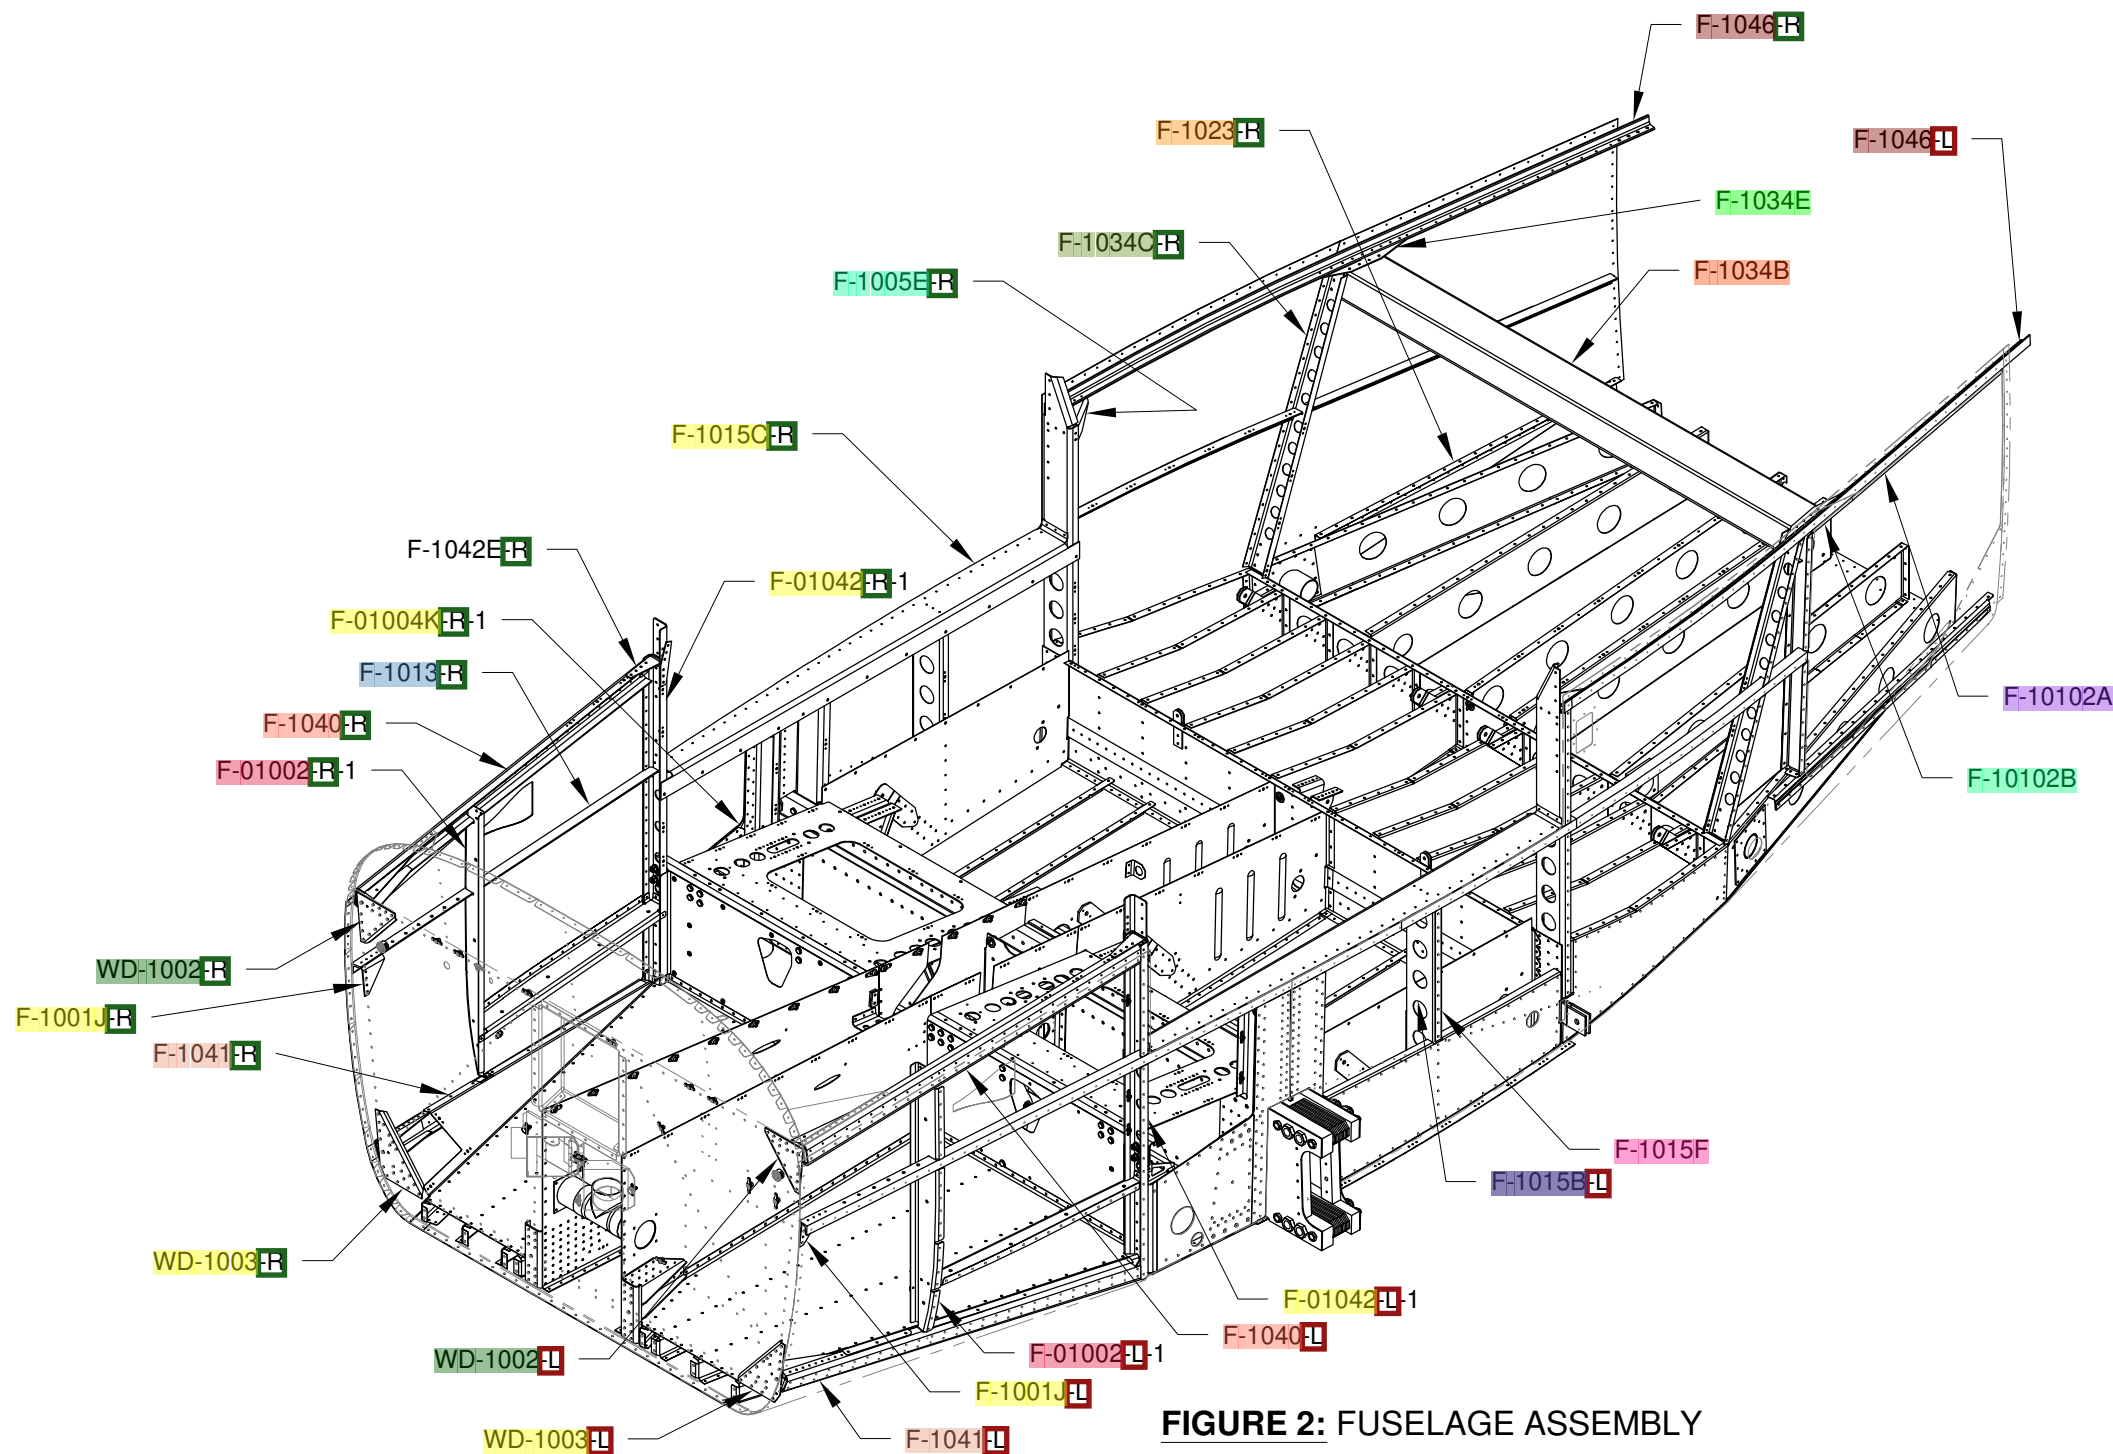

FIGURE 2: FUSELAGE ASSEMBLY
Step 8: Rivet the lower tab on the F-01002L-1 & F-1 Fwd Fuselage Bulkheads to the upper flange of the F-1041 Lwr Fuse Channels. Rivet callouts are on Page 29-12, Figure 2.
Step 9: Rivet the F-1023L Baggage Floor Angle and the F-10100A and F-10101 Baggage Door Shims to the F-1070L Mid Side Skin per the rivet callouts on Page 29-8, Figure 2 (do not rivet the seven aft most holes marked **do not rivet**). Rivet the F-1023R Baggage Floor Angle to the F-1070R Mid Side Skin per the callouts on Page 29-8, Figure 3. Back riveting on a plate works well for this step.
Step 1: Start by riveting the double row of rivets on either side of the joint between the F-01069-L-1 & F-1 Fwd Side Skins and the F-1070 Mid Side Skins. Rivet callouts are in Figure 1, Figure 2 and Page 29-18, Figure 1.
Rivet the F-1070-R Mid Side Skins to the fuselage assembly understructure using the callouts in Figure 1 and Figure 2 **(Only rivet the locations that have callouts)**.